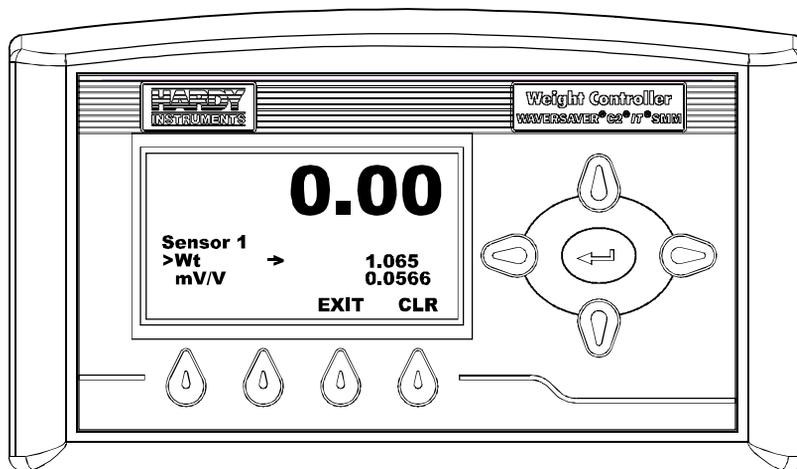

FIG. 404 SENSOR 1/IT TEST RESULTS
- Step 3. Press the Enter button. The sensor IT Test results appears with the mV/V and weight displayed. (See Figs. 404 & 405)